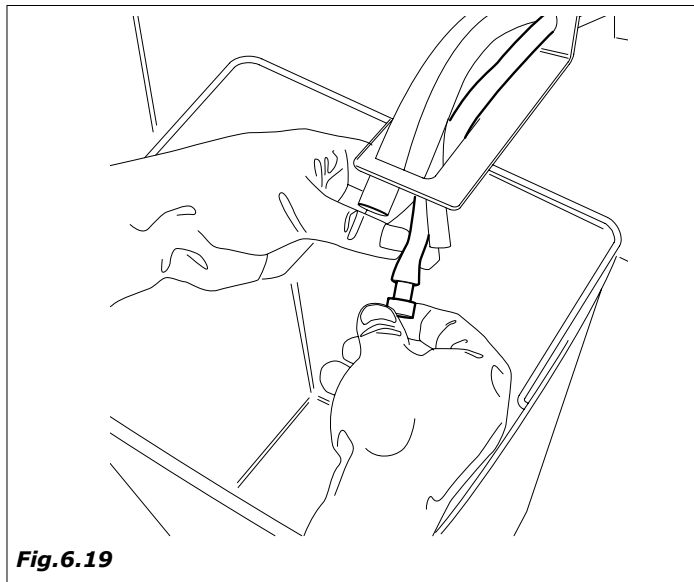

Fig.6.19
- empty completely the instant boiler and the floater reservoir removing the plug located on the hose along the drain chute (Fig. 6.19).